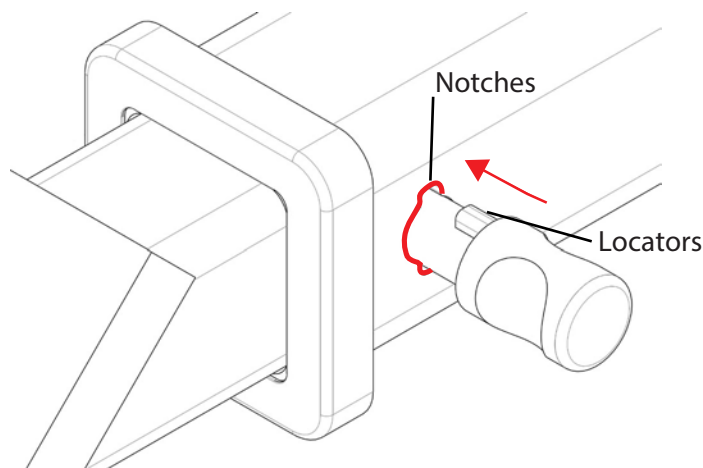

Fig 3. Silent Anti-Rattle Hitch Pin orientation
- e. Remove 2 screws on top of the bumper, refer figure 3.
Insert HITCH PIN through hole in HITCHBOX and hole in TBM SHANK; ensure the LOCATORS are inserted into the NOTCHES in the HITCHBOX (Fig. 3).